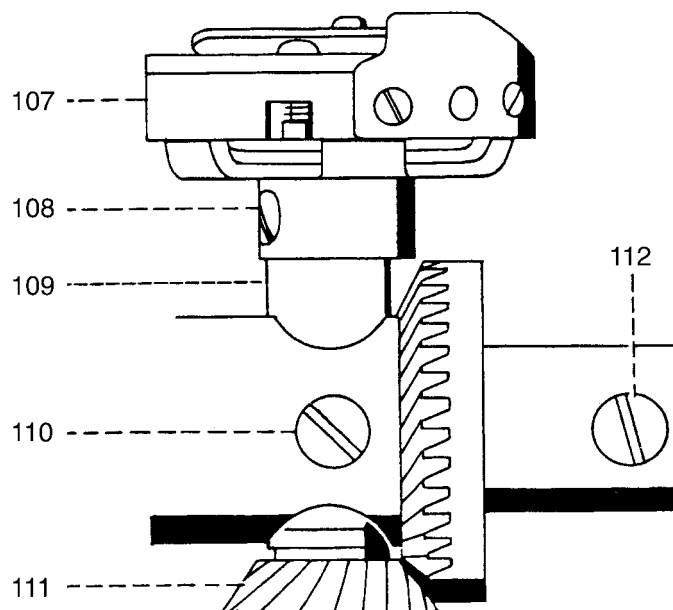

Fig. 112
- Loosen the two screws 108 on the sewing hook (fig. 112).
- Remove screw 110 at the sewing hook bearing and remove hook shaft bushing 109 (fig. 112).
- Insert sewing hook 44 and tighten one of screws 108 (fig. 112).